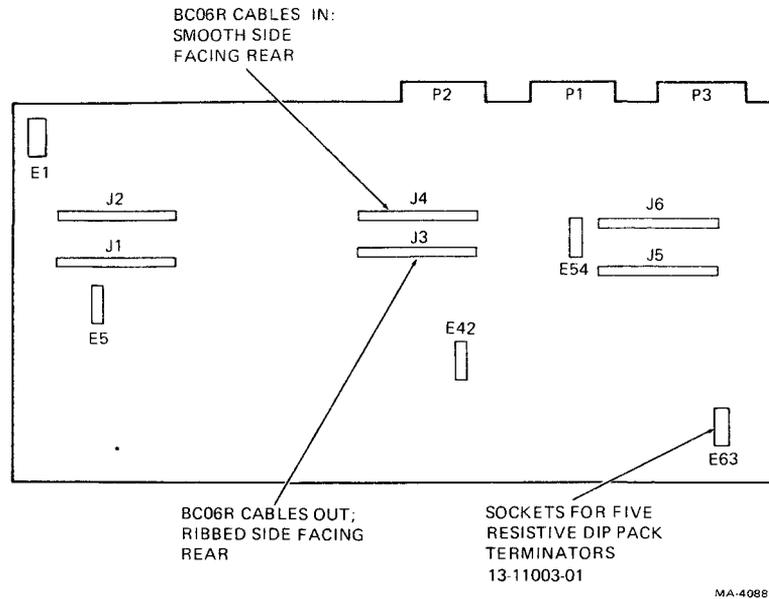

Figure 3-8 Cable Orientation on M8940 MTA Module
3.4.3.3 TU77 Transport – An M8940 tape magnetic adapter board (MTA) is used to interface the TM03 to a TU77 tape transport. The MTA board is plugged into the card cage assembly inside the TU77 cabinet. To cable the M8940 MTA board, connect the three BC06R slave bus cables from the TM03 to J2, J4, and J6 as shown in Figures 3-4 and 3-8. Insert the connectors so that the cable's smooth side is facing to the rear and the colored stripe is on the left as shown in Figure 3-8.
If there is only one slave transport connected to TM03 No. 0, terminate the slave bus by inserting five resistive DIP packs (P/N 13-11003-01) into the MTA board as shown in Figure 3-8. If another slave transport is daisy-chained onto TM03 No. 0, connect three BC06R slave bus cables to J1, J6, and J4. These three cables are connected with the ribbed side facing to the rear but with the colored stripe still on the left (Figure 3-8).